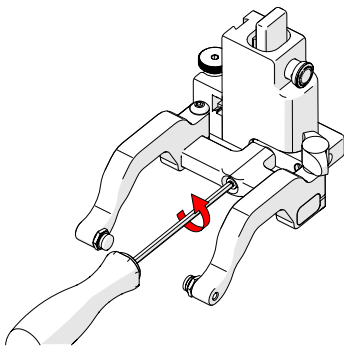

Fig. 134 - Remove yoke
1. Using the supplied 3 mm driver, unscrew the yoke (*Fig. 134*).